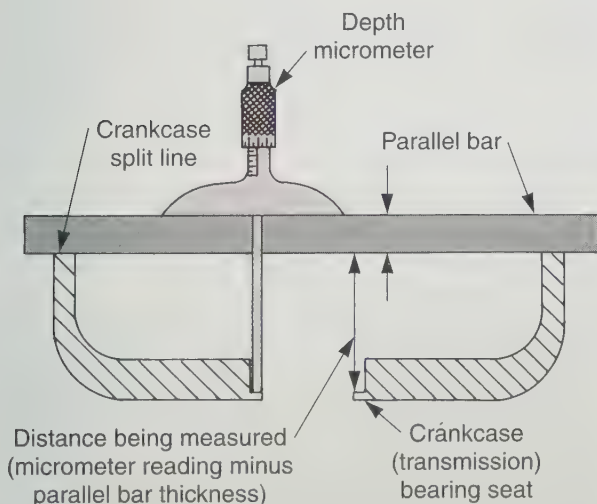

Figure 21-26. A depth micrometer and parallel bar are used to measure the distance between the bearing seat and crankcase split line.
1. Measurement of distance between bearing seats in the crankcase and/or cover, **Figure 21-26**.